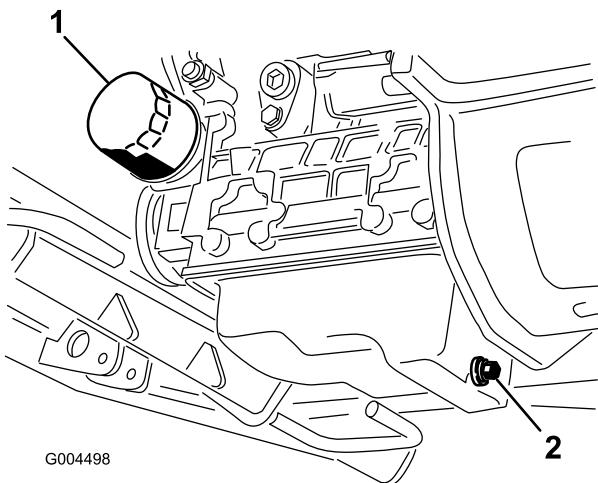

Figure 43
- Set a drain pan under the oil pan and in line with the drain plug (Figure 43).
6. Remove and replace the oil filter (Figure 43).